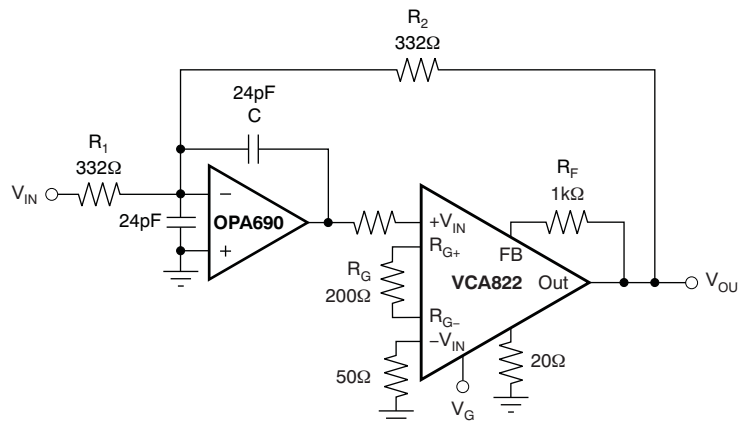

Figure 88. Voltage-Control Low-Pass Filter
In the circuit of Figure 88, the VCA822 device serves as the variable-gain element of a voltage-controlled low-pass filter. This section discusses how this implementation expands the circuit voltage swing capability over that normally achieved with the equivalent multiplier implementation. The circuit control voltage, V_G, is calculated as according to the simplified relationship in Equation 8:
Because the VCA822 device is most linear in the midrange, the median of the adjustable pole should be set at $V_G = 0V$ (see Figure 79, Figure 42, Figure 63, and Equation 10). Selecting $R_1 = R_2 = 332 \Omega$, and targeting a median frequency of 10 MHz, the capacitance (C) is 24 pF. Because the OPA690 was selected for the circuit of Figure 88, and in order to limit peaking in the OPA690 frequency response, a capacitor equal to C was added on the inverting mode to ground. This architecture has the effect of setting the high-frequency noise gain of the OPA690 to +2 V/V, ensuring stability and providing flat frequency response.